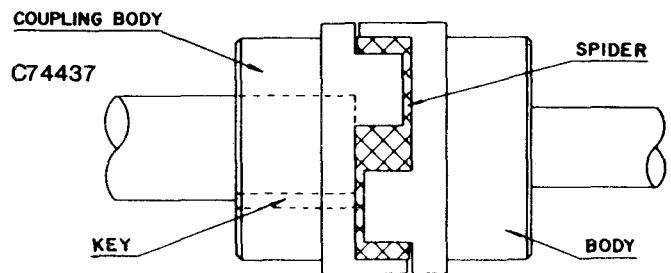

FIGURE 1-7. — COUPLING
**COUPLING** (Figure 1-7) — The motor and compressor are direct connected by a resilient cushion-type flexible coupling. The coupling does not require lubrication. On all models the coupling cushion member is a one-piece spider-type construction.